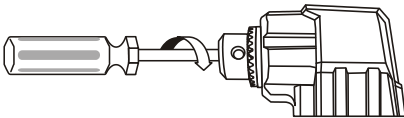

Fig. 8
6. Remove the chuck screw using a \oplus #2 screwdriver (Fig. 8).